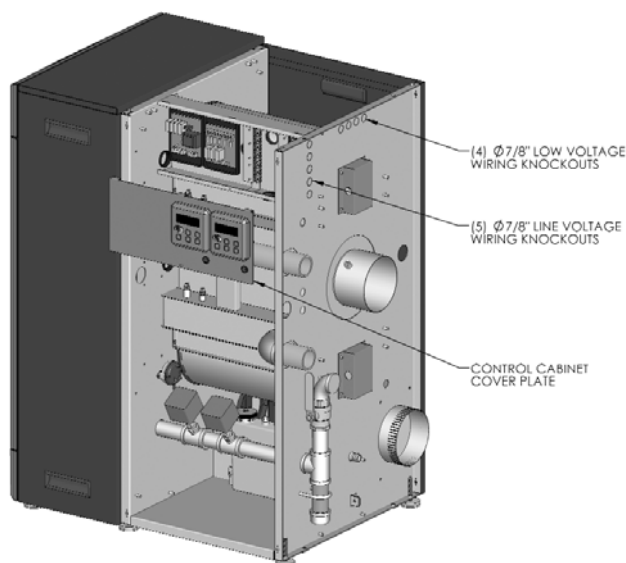

Figure 7.1: Electrical Terminal Access
1. Electrical knockouts are provided on the rear panel of the PF-850 and PF-1000 boiler to connect supply wiring, circulator wiring, external controls, and/or external sensors. Figure 7.1 shows these knockouts.
- a. There are (5) 7/8" diameter knockouts for line voltage connections such as supply wiring, circulator wiring and low water cutoff (LWCO) wiring.
- b. There are (4) 7/8" diameter knockouts for low voltage connections such as outdoor sensors, domestic hot water (DHW) tank sensors and system sensors.
2. Electrical terminals are located behind the control cabinet cover plate where the Burner LCD Displays are mounted (See Figure 7.1).